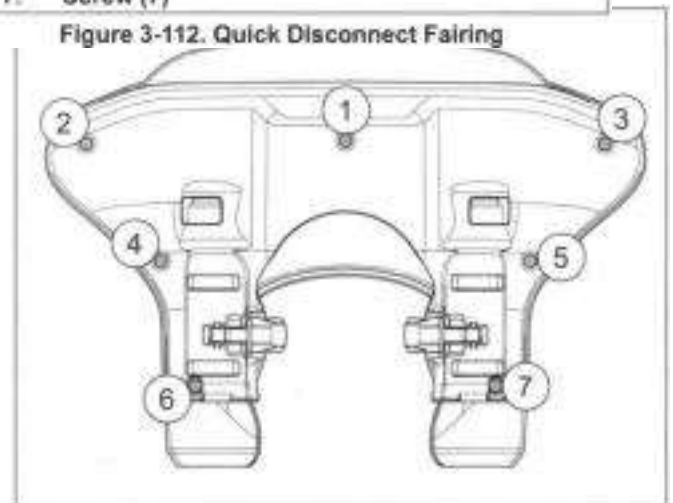

Figure 3-113. Torque Sequence
- a. Place clamps (6) in position on inner fairing (1).
- b. Install pins (4) through holes on inner fairing and through clamps until flush.
- a. Place inner fairing (1) and outer fairing (3) together.
- b. Install screws (7).
- c. See Figure 3-113. Tighten screws in sequence shown.